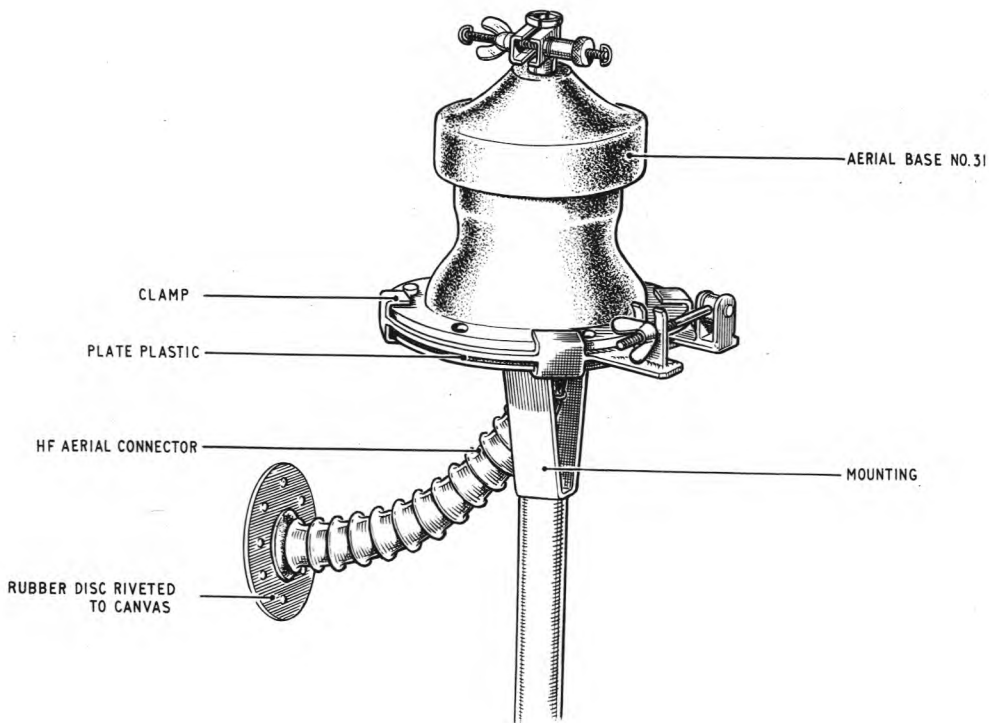

FIG. 57 AERIAL BRACKET WITH HF BASE AND LEAD FITTED
(3) Clamping the aerial base to the mounting on the vehicle
- (b) Fit the two halves of the clamp on the plate plastic, screw clamp upwards as in fig.57, and engage the two dowel pins in any two adjacent holes. Position it so that the clamp does not project outwards from the side of the vehicle.